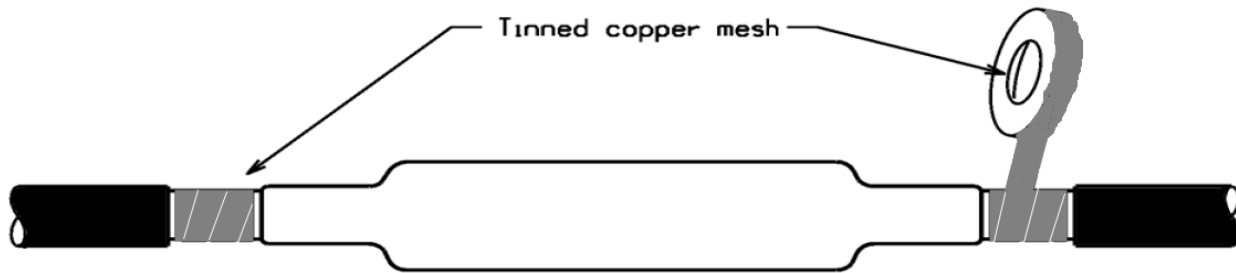

Figure 13
3. Build the splice body (heat shrink, pre-molded and tape) across the connector and cables according to the manufacturer and/or company instructions. Refer to Figure 13.